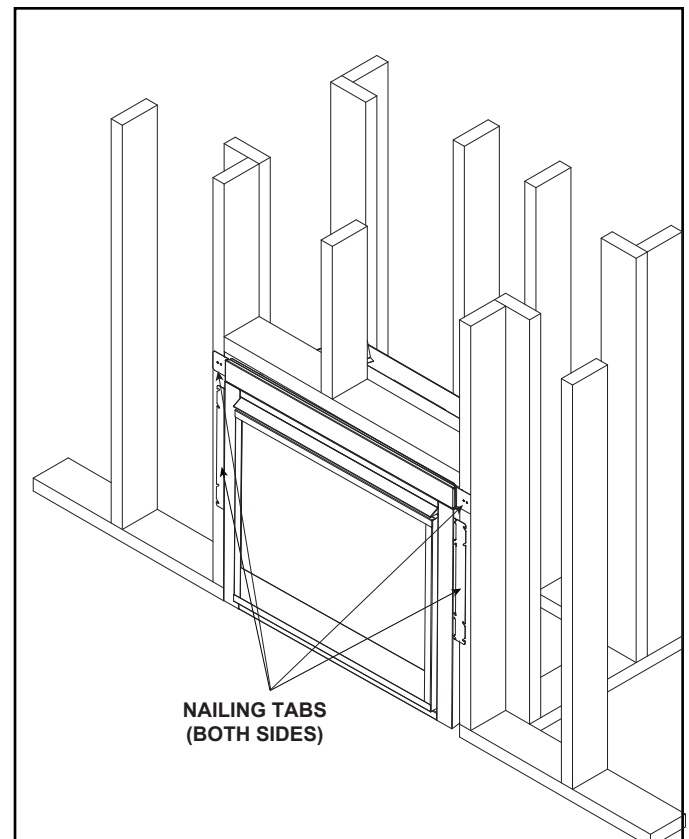

Figure 6.18 Proper Positioning, Leveling And Securing Of An Appliance
The diagram shows how to properly position, level, and secure the appliance. See Figure 6.18. Nailing tabs are provided to secure the appliance to the framing members.
- Bend out nailing tabs on each side of the appliance and on each end of the sheetrock support. See Figure 6.18.